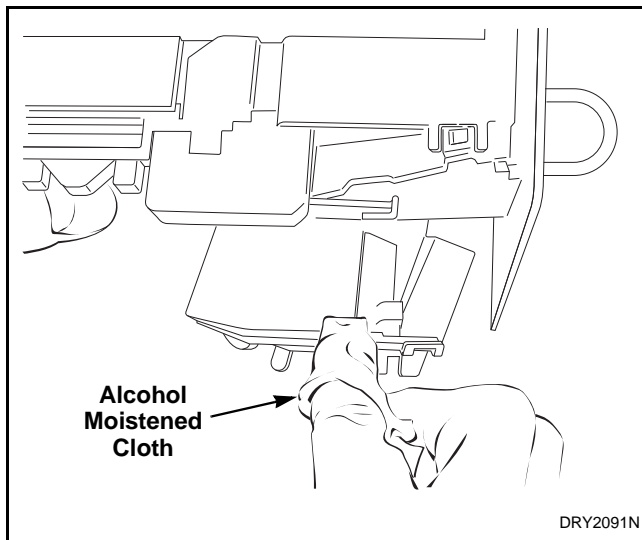

Figure 71
- f. Clean residue from coin rail with an alcohol moistened cloth. Refer to *Figure 71*.